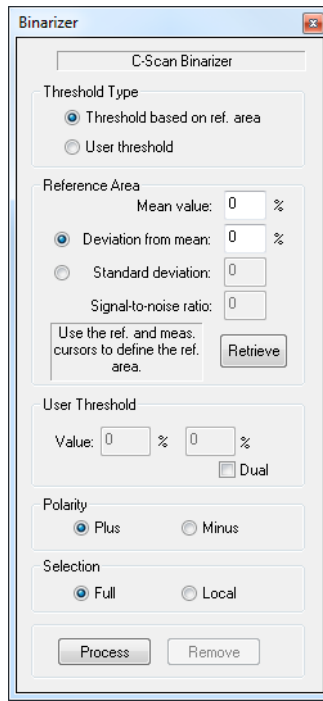

Figure 7-40 The Binarizer dialog box
1. In the **Components** toolbar, click  (Binarizer) to open the **Binarizer**. See Figure 7-40 on page 379.